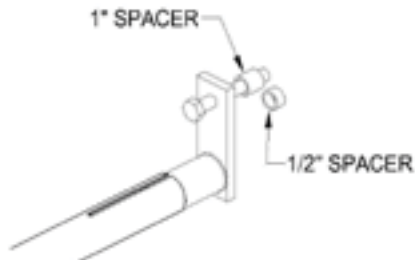

Figure 5
- B. Spacers are supplied to bring the steel swivel away from the frame in the event of any obstructions (see Figure 5 on next page).